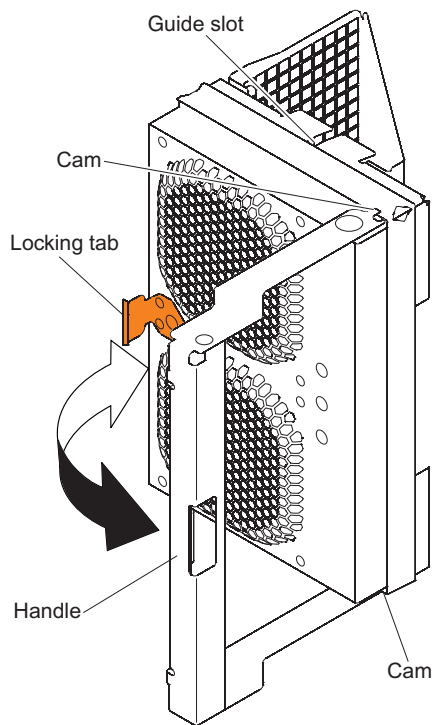

Figure 82. Removing a fan assembly
- a. At the rear of the storage expansion enclosure, remove the fan assembly (see Figure 82 on page 121) by pressing on the locking tab holding the fan assembly handle in place; then, pull the fan assembly handle toward you.